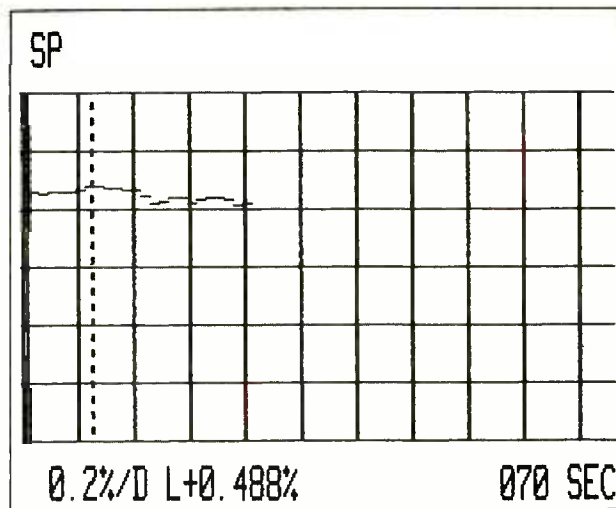

Fig. 11: Vector Research VCX-600: Speed accuracy of transport system after 70 seconds of play.
11. Note that the plot in Fig. 11 shows that this small error tends to decrease with increased playing time, coming close to the center line of the plot which represents "zero percent" error.